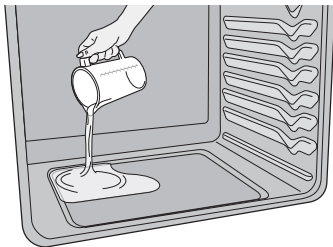

Figure 20: Add 1 cup of tap water
3. Pour 1 cup of tap water onto the oven bottom. (Figure 20) Close oven door.